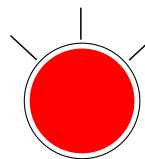

Figure 8. Fault Status Red LED (ON)
9. If the **RED** "Fault" status LED (Figure 8) comes **ON** (lit), this indicates that a pumping fault has occurred and corrective action is required.